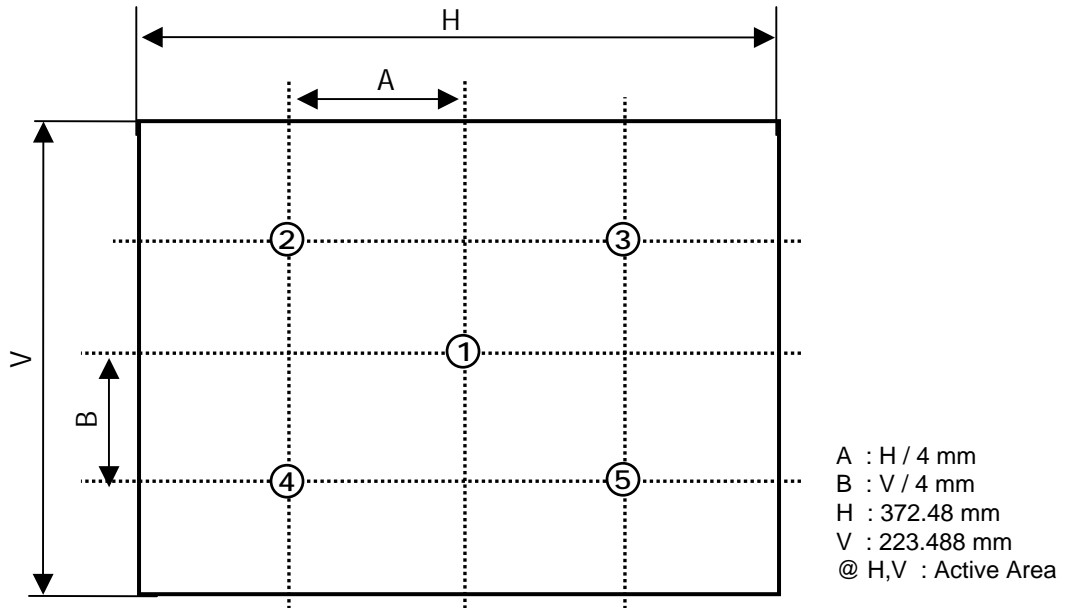

FIG. 2 Measure Point for Luminance
2. Surface Luminance( $L_{WH}$ ) is the luminance value at center 1-point across the LCD surface 50cm from the surface with all pixels displaying white. For more information see the FIG. 2.
For more information, see the FIG. 2.